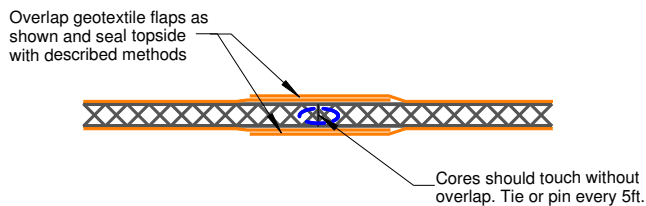
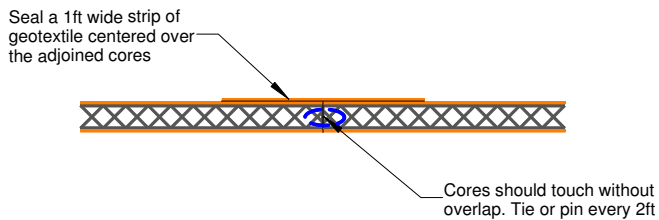

Figure 3: Seaming Adjacent Rolls Along Their Length
Figure 4: Seaming Rolls End to End
5. To prevent wrinkles maintain proper tension and alignment when unrolling Roadrain-T. Drainage cores of adjacent rolls and end to end rolls should touch along their length. Gaps and/or overlaps between panels should be avoided. See figures 3 & 4.
3. The flaps on adjacent panels shall be tucked and overlapped as shown in figure 3. End to end rolls and cut rolls (no geotextile flap) will require a separate strip of nonwoven geotextile be placed over the seam as shown in figure 4.
2. Geocomposite damage The drainage core is robust and can sustain small cuts and tears with negligible impact on performance. Unless major damage occurs that restricts flow, we recommend repairing only the geotextile as described above. In the event of major damage to the core, the entire roll shall be cut to remove the damaged area and a section from a new roll cut to fit the area. It shall be secured and sealed according to the method described for adjoining rolls end to end. See figure 4.